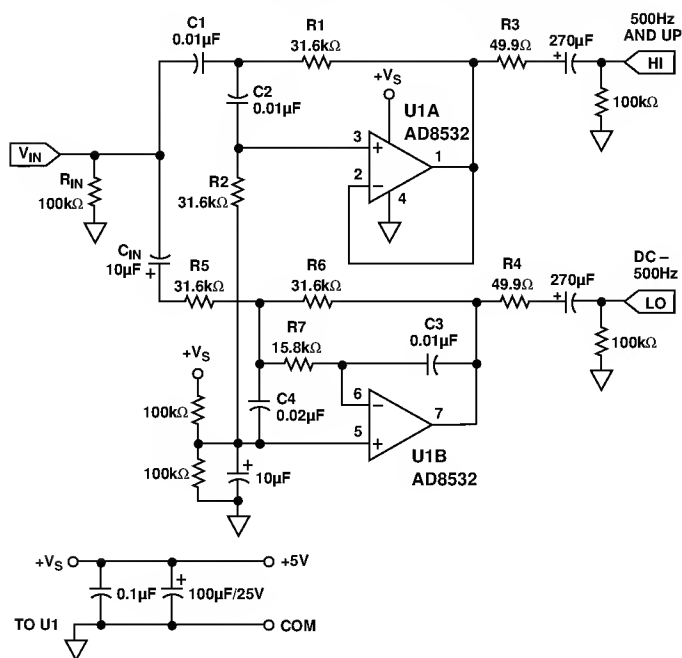

Figure 41. A Single-Supply, Two-Way Active Crossover
Active filters are useful in loudspeaker crossover networks for reasons of small size, relative freedom from parasitic effects, the ease of controlling low/high channel drive and the controlled driver damping provided by a dedicated amplifier. Both Sallen-Key (SK) and multiple-feedback (MFB) filter architectures are useful in implementing active crossover networks. The circuit shown in Figure 41 is a single-supply, two-way active crossover which combines the advantages of both filter topologies. This active crossover exhibits less than 0.4% THD + N at output levels of 1.4 V rms using general purpose unity-gain HP/LP stages.